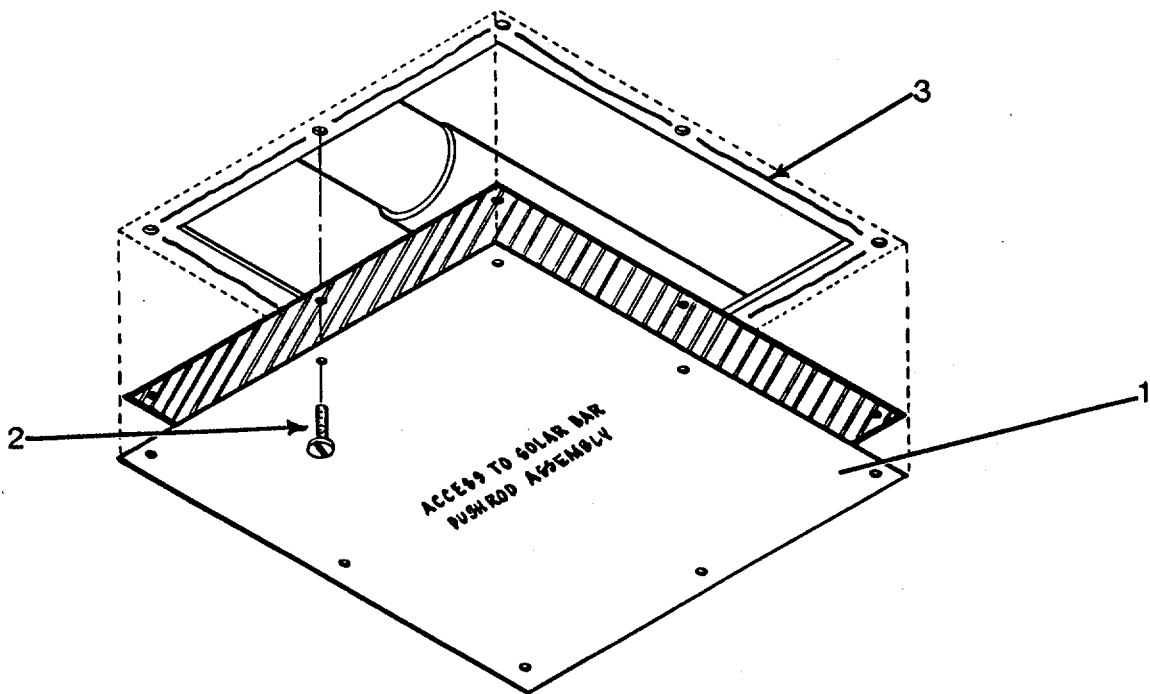

Figure 4-9. Solar Bar Push Rod Access Plate
c. Repair by replacing access plate (1) to solar bar push rod. (See figure 4-9.)
(1) Remove mounting screws (2) from access plate and remove access plate (1) from AC ducting assembly (3).
(2) Align replacement access plate (1) over holes in AC ducting assembly (3) and secure in place with mounting screws (2).